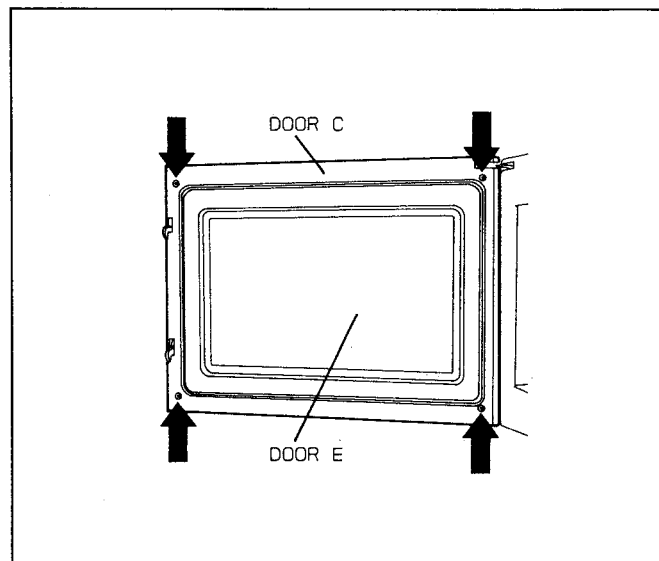

Fig. 22
- (A) Open the door and remove 4 screws holding door C. (Fig. 22)
- (B) Remove the door C from door E by carefully pulling outward starting from upper right hand corner. (Fig. 22)